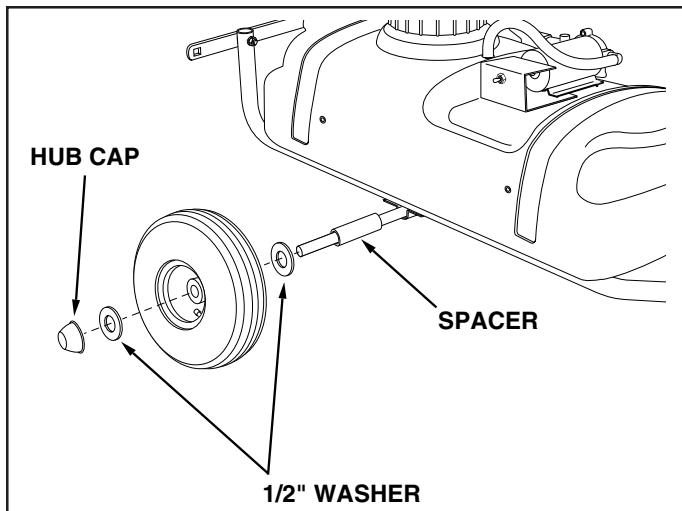

FIGURE 6
8. Slide the axle through the two axle brackets. See figure 6.
9. Assemble a spacer, a 1/2" washer, a wheel (valve stem facing out) and another 1/2" washer onto the axle. Lightly tap a hub cap onto the end of the axle. Repeat on other end of axle. See figure 6.